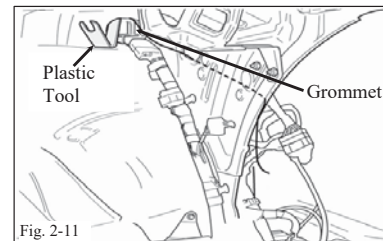

Fig. 2-11
(1) Access the rubber grommet from the trunk passenger side and insert a plastic trim removal tool into the rubber grommet in order to create an opening to insert the antenna into the trunk from the rear seat. (Fig. 2-11)